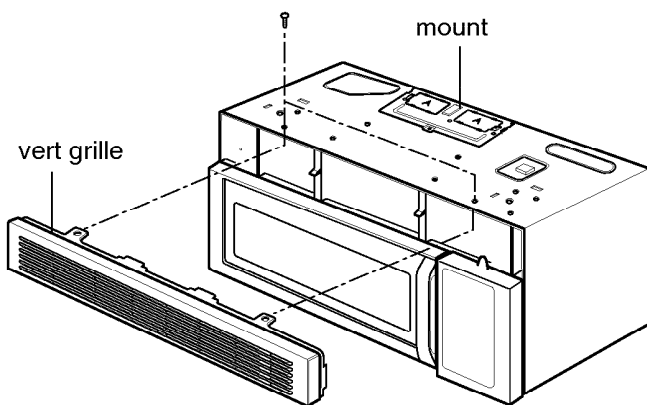

Figure 11
D. REMOVING MAGNETRON (Figures 11 Through 13)
- (1) Remove vert grille.
- (2) Remove mount.
- (3) Remove outer case.
- (4) Disconnect the wireleads.
- (5) Remove the Magnetron very carefully.